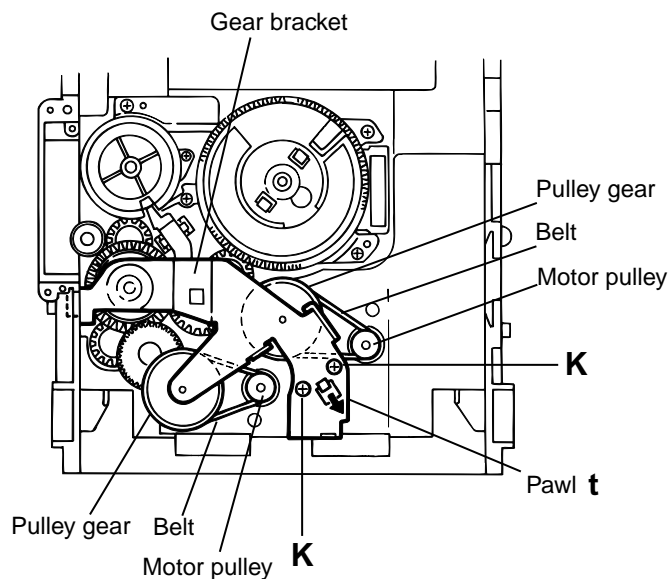

Fig.18
4. While turning the cam gear "q", align the pawl "s" position of the select lever to the notch position(Fig.18) on the cam gear "q".
5. Remove the four screws **J** retaining the cam unit(cam gear "q" and cams R1/R2 assembly)(See Fig.18).
## ■ Removing the actuator motor and belt (See Fig.18~21)